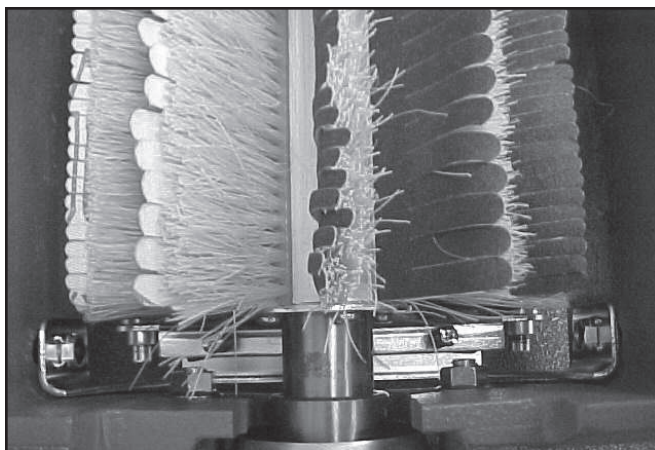

Fig. 11 Tension rollers and adjustment bracket
2. Set tension rollers to type of stock being sanded (See Tension Roller Adjustment below and Fig. 11).
Spring loaded infeed and outfeed Tension Rollers (Fig. 11 & page 26) are provided to maintain downward pressure on stock being sanded and to prevent slippage of the stock on the conveyor. When properly set, the Tension Rollers should engage or raise up about 1/8" to accommodate the stock being brushed.
knob will come on when INTELLISAND is operating. (Fig. 11 a) When the load is decreased, INTELLISAND will automatically increase the feed rate to the pre-selected speed. INTELLISAND **does not** engage when brush sanding or if drum sanding at a slower RPM than recommended.